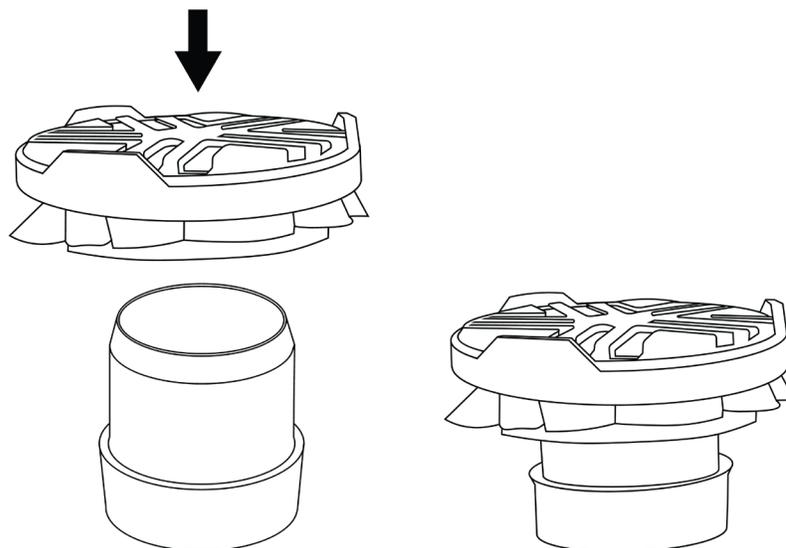

Figure 3 Flip the adapter and place on sample
5. Flip the adapter and place it on top of the soil sampling ring (Figure 3).